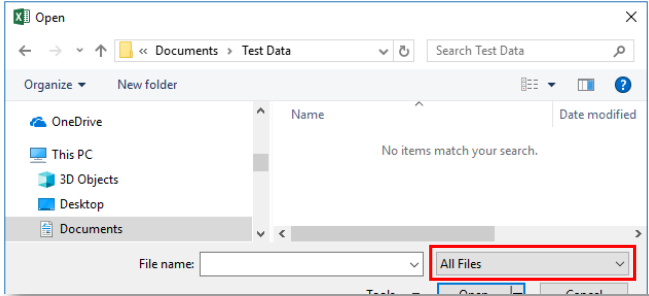

Figure 13: Excel File Explorer
1. Open spreadsheet application. Click **File > Open > Browse** to locate the test file(s). In the bottom right corner of the file explorer (Figure 13) select **All Files** from the drop-down menu.